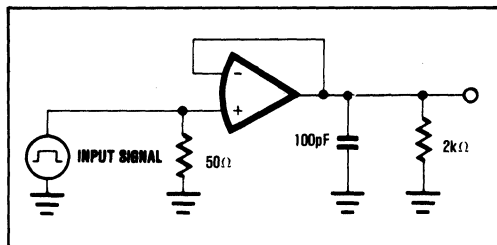

FIGURE 3. Dynamic Response Test Circuit.
2. See Figure 3.
The test circuit of Figure 3 is used for measurement of slew rate, settling time, rise time and overshoot. Both rise time and overshoot are measured for a small output signal ($V_{OUT} = \pm 100mV$). Slew rate and settling time are measured for a $10V$, p-p, square wave.